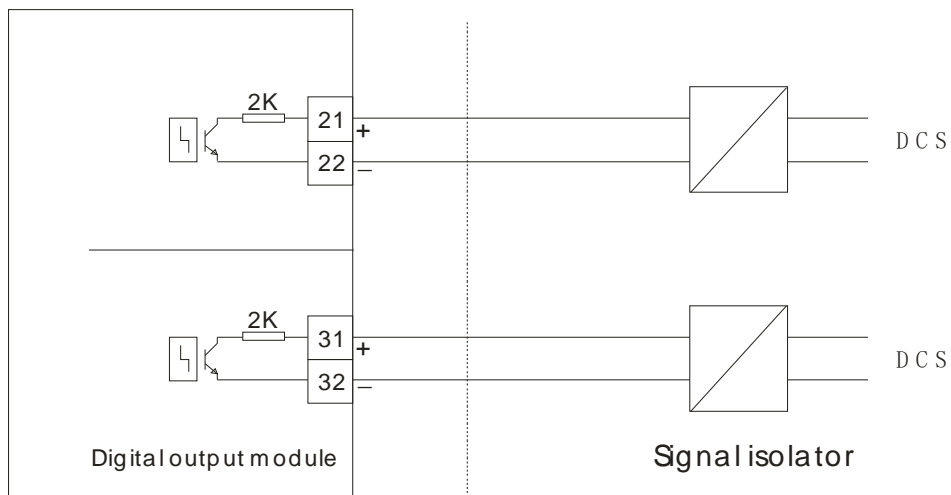

Figure 9: Digital Output Module Electric Connection
4.6.3 Digital output module electric connection (Figure 9):